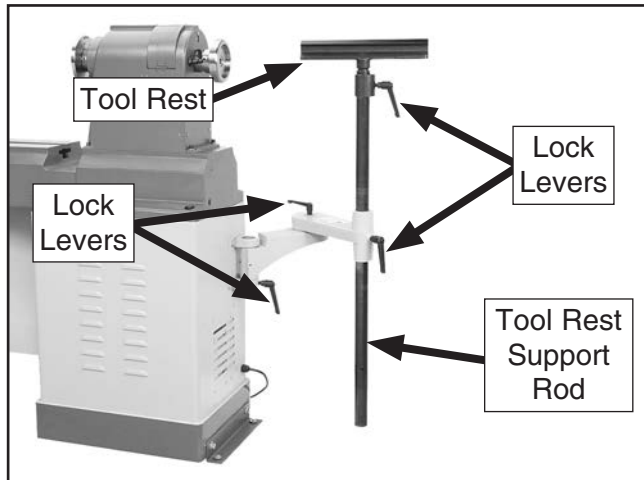

Figure 16. Outboard tool rest assembly.
1. While firmly holding the tool rest support rod, loosen the lock levers shown in **Figure 16**.